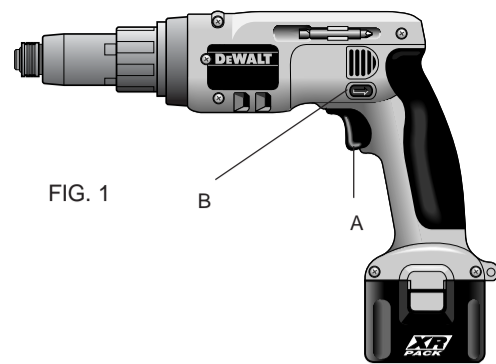

FIG. 1
2. Insert the battery pack into the charger, as shown in FIG. 1, making sure the pack is fully seated in the charger. The red light will blink and the charger will beep once indicating the charging process has started.
Variable Speed Switch (Fig. 1 item A)
Forward/Reverse Control Button (Fig. 1 item B)